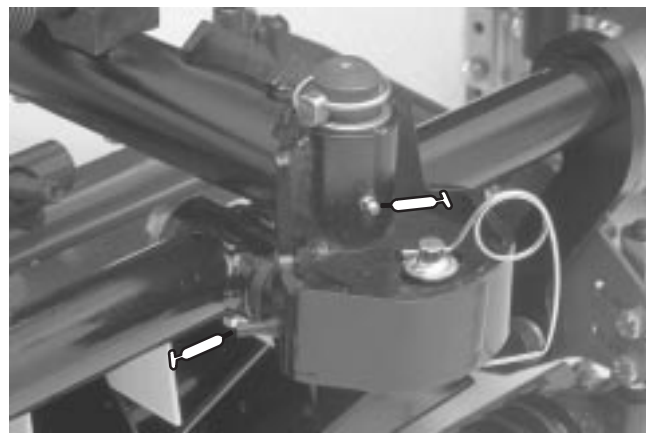

Figure 36
- Cutting unit carrier frame and pivot (2 ea.), (Fig. 36)